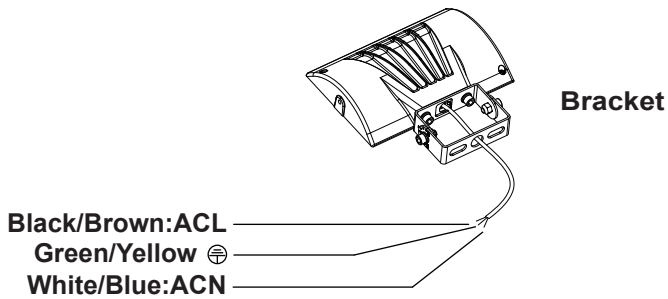

figure 2.4
Step 2: Connect the wires properly according to the right wiring requirements (pay attention to positive wire, negative wire, and ground wire), and then put the wires into lamp pole; (figure 2.4)